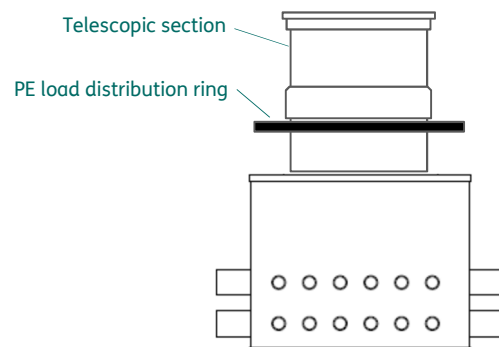

Figure 2
- The PE load distribution ring is assembled below the telescopic section and supported to make it load bearing (figure 2).